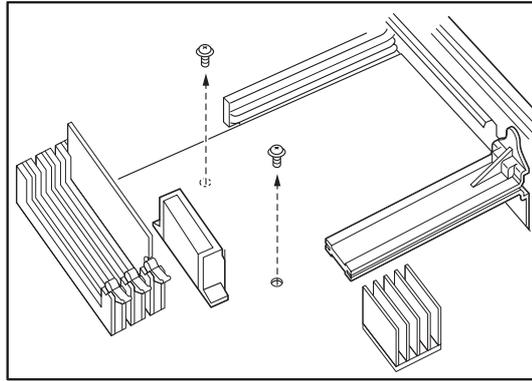

Figure 1-5-2
- 3) Hold the cartridge on each side as shown in figure 1-5-2 and slowly rock it 5 to 6 times to evenly distribute the toner.